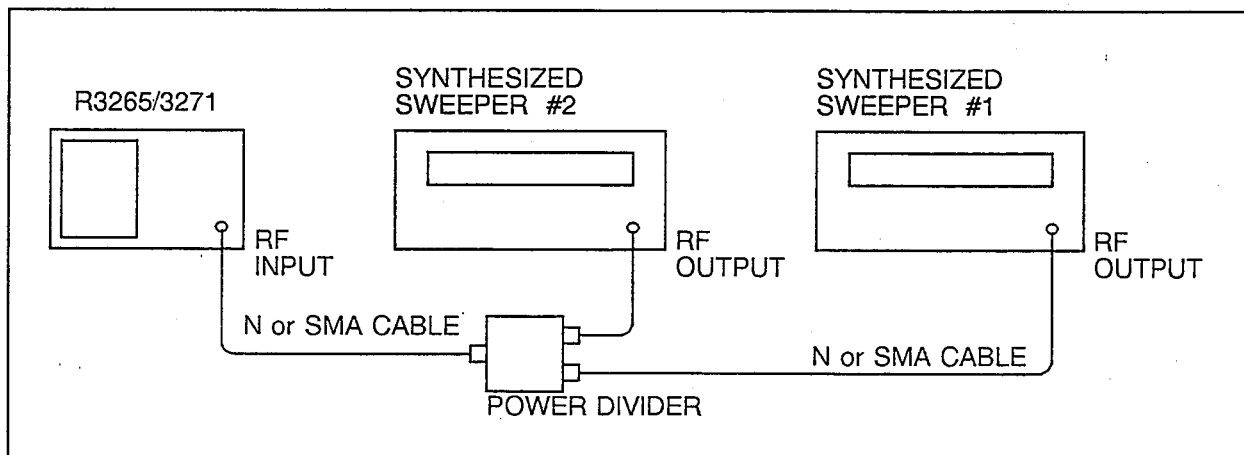

Figure 4-12 Third Order Intermodulation (<300 MHz) Test Setup
- (1) Select power divider #1 and connect the units as shown in Figure 4-12.
- (2) Press the INSTR PRESET key on each synthesized sweeper. Set each of the synthesized sweeper controls as follows: